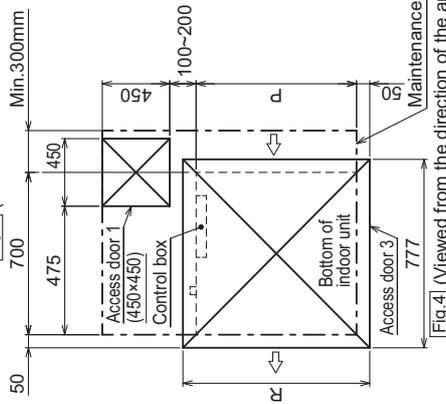

Fig.4 (Viewed from the direction of the arrow B)
- Create access door 1 diagonally below the control box and access door 3 below the unit as shown in Fig.4.
[Fig.4] (Viewed from the direction of the arrow B)
· Create access door 1 diagonally below the control box and access door 3 below the unit as shown in Fig.4.